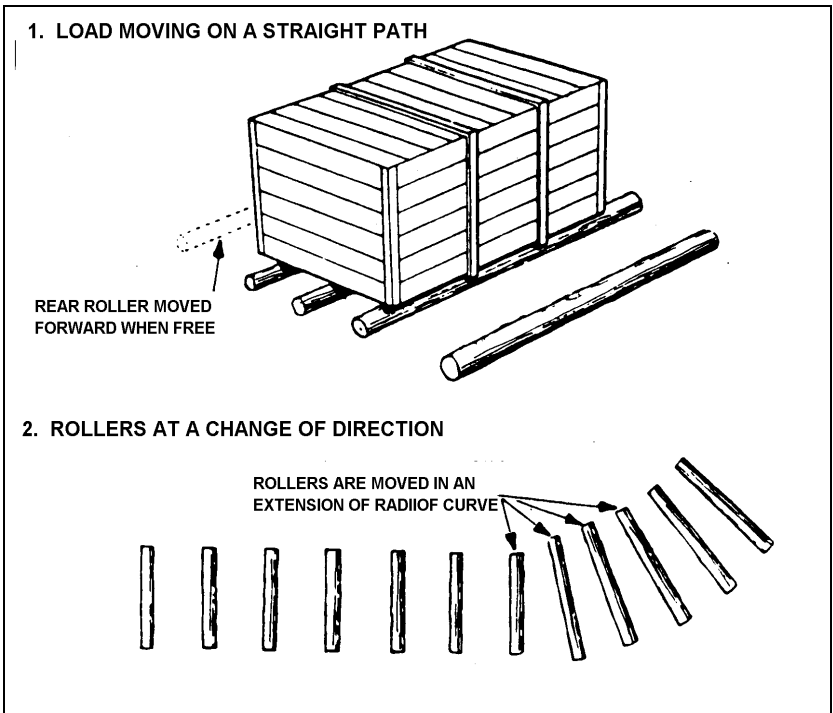

Fig 10-2-3 Movable Rollers
8. **Moveable Rollers.** Moveable rollers are mainly used for moving heavy and bulky loads over fairly level ground. They may be improvised from steel bar, piping or hardwood logs. Provided that there is no slipping, the load travels twice as fast as the rollers over the ground and in the same direction, that is, at right angles to the axis of the rollers. If the load is required to travel in a curve, the rollers are laid out as shown in Fig 10-2-3. If the ground is soft, it may be necessary to lay down a plank path. Plenty of spare rollers should be available to feed in front of the load. Care is required to ensure that rollers projecting outside the edges of the load do not trip the working party.